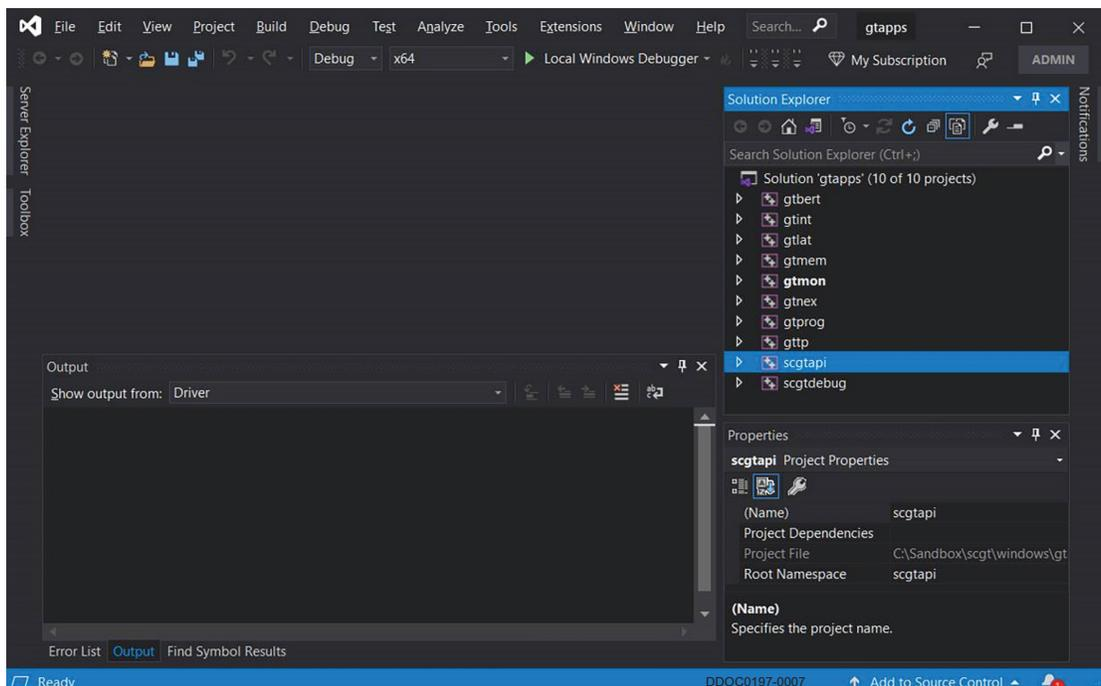

Figure B.3 Visual Studio Project Example
1. To rebuild the API using visual studio project GUI (Figure B.3).